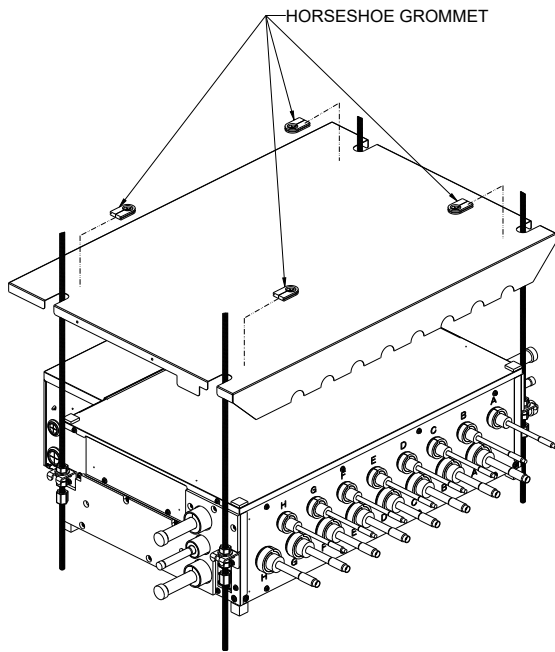

FIGURE F.2
- 1.4 Install the Horseshoe Grommets (item 13) in the indicated spaces on the top panel around the ceiling rods by pushing them into designated grooves on the panel. (Refer to Figure F.2)